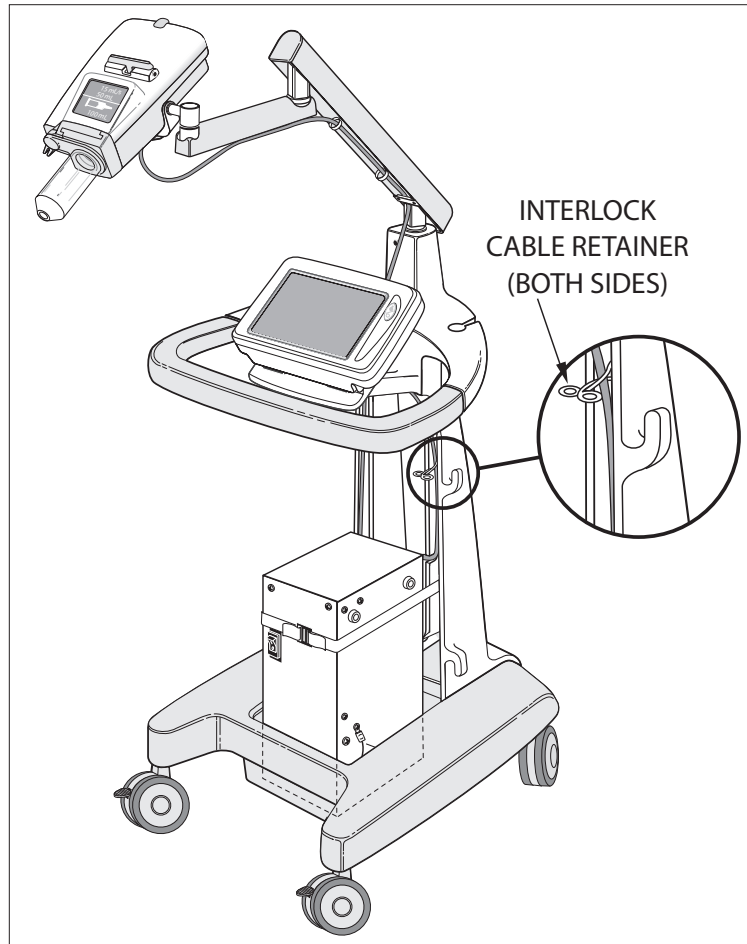

Figure 2-4-5 Securing Cables
1. Secure console and powerhead cables to the column using the cable retainers shown in Figure 2-4-5.